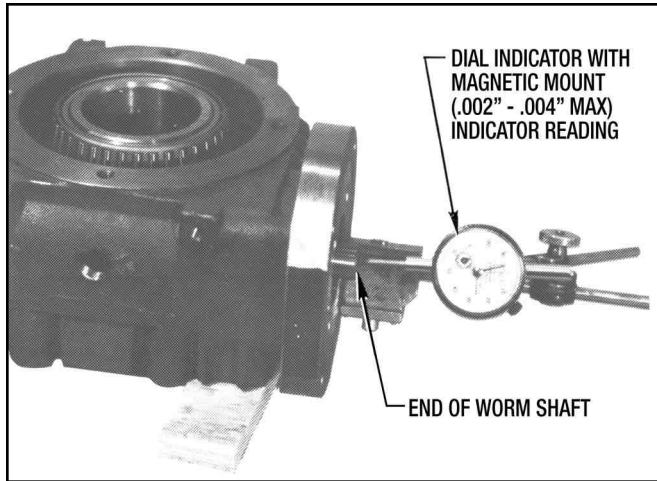

Figure 9.8 - Checking Worm Shaft End Play
7. Check the worm shaft after installation for end play. This can be done by setting a Dial Indicator on the end of the worm shaft and manually pushing the shaft in and out while rotating it. The End-Play should be between .002"-.004". Add or subtract Shims (#132) as needed. (See Figure 9.8)